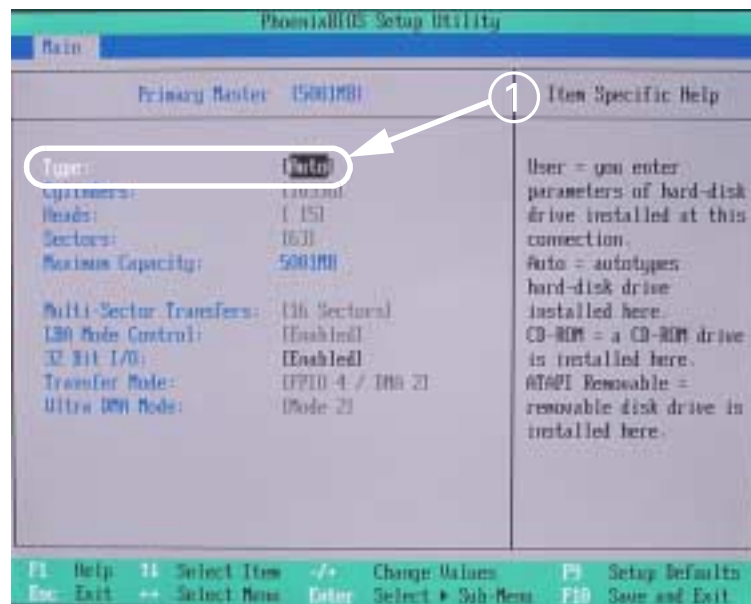

Figure 19-3 Hard drive settings
10. Set type to Auto (① in Figure 19-3), using +/- keys.